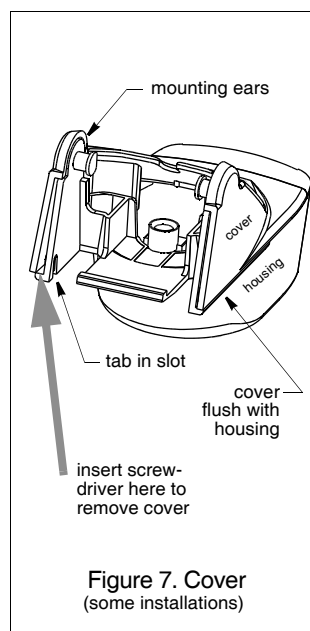

Figure 7. Cover (some installations)
3. Insert a blade screwdriver between the cover and the transducer housing (see Figure 7). Pry each side apart, in turn.
1. Spread the sides of the cover horizontally (see Figure 7).